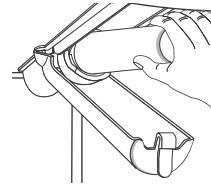

Fig.9 Filter housing and filter
- d Gently rotate the filter clockwise until it stops and then close the filter housing cover (refer to figure 9).